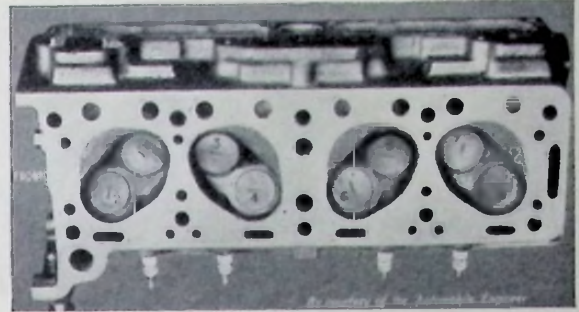

Fig. 9. Valve Markings.
- (2) Remove the set pin which secures the rocker shaft to the top half of the camshaft intermediate bearing, and slide the various components off the rocker shaft towards the rear. On later production this centre set pin is fitted with a lock washer. See Fig. 1, Page BZ2. Note the order and mark the rockers so that they can be reassembled in their original positions. The order of the parts is shown in Fig. 1, Page BZ2. Notice that the inlet valves are marked 2, 4, 6, 8, and the exhausts 1, 3, 5, 7, counting from the radiator end. **It is important that the valves are inserted in this order to ensure correct reassembly.** See Fig. 9.
make sure that they are replaced in their correct positions, and that all parts are clean and liberally coated with oil. The correct order is : Inlet 2, 4, 6, 8, and Exhaust 1, 3, 5, 7. See Fig. 9, Page BZ9.